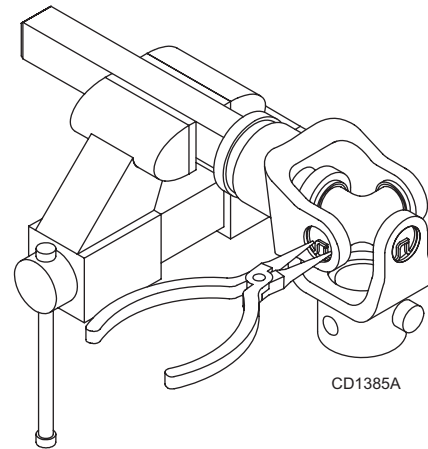

Figure 26
1. Remove external snap rings from yokes in four locations as shown in Figure 26.